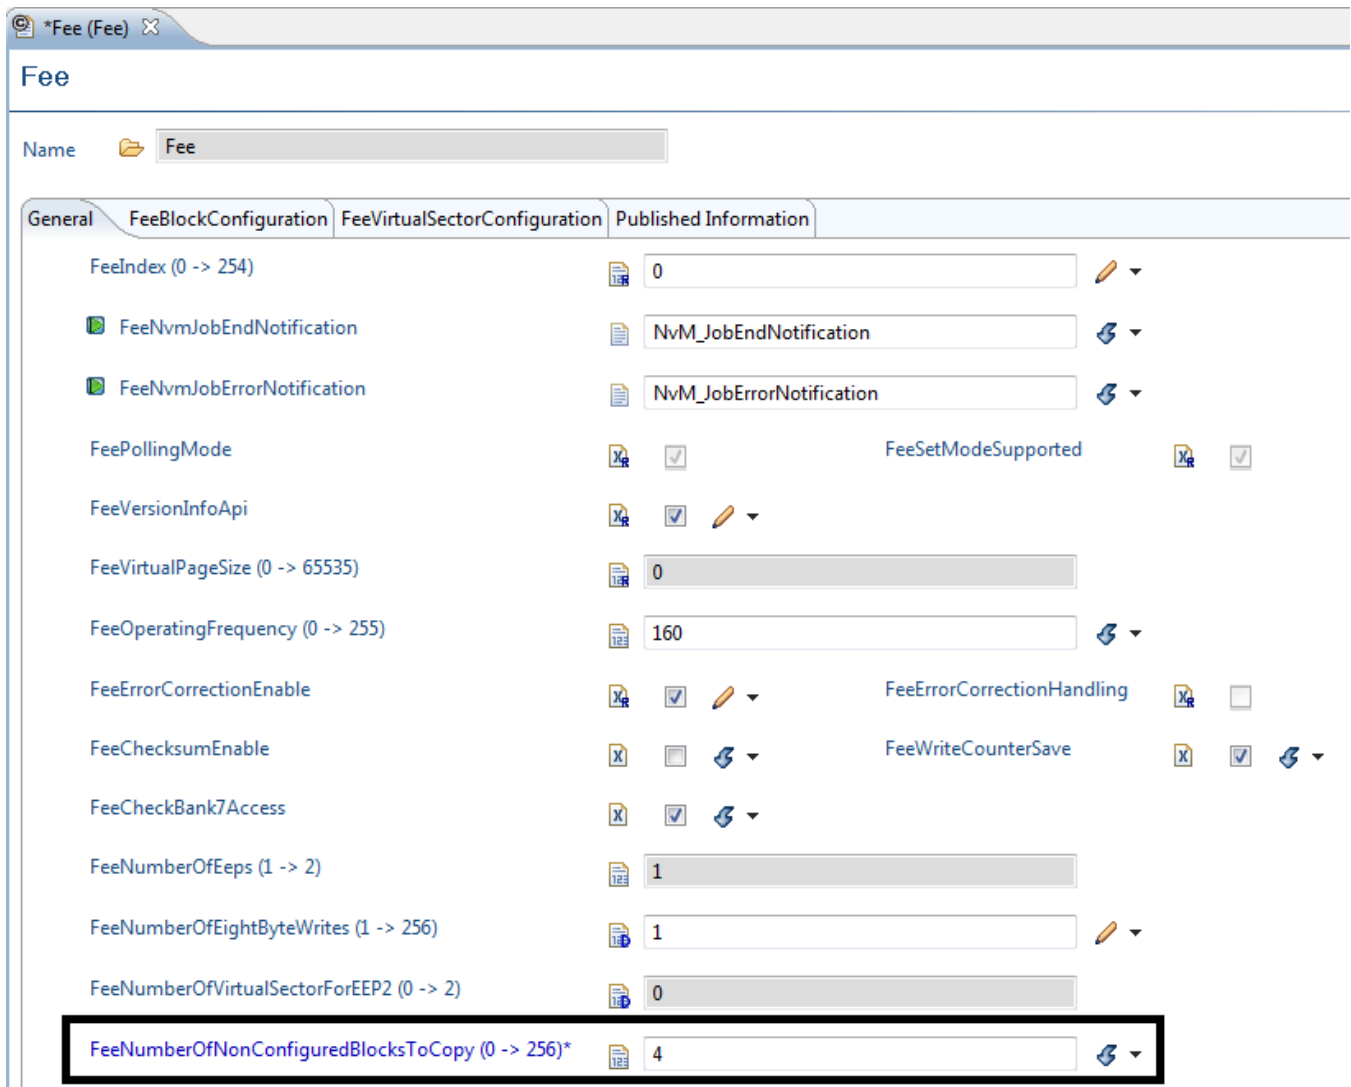

Figure 4. EBTresos Configuration Parameters
4. Use the configuration parameters shown in Figure 4 in EBTresos, if the autosar FEE driver is used.